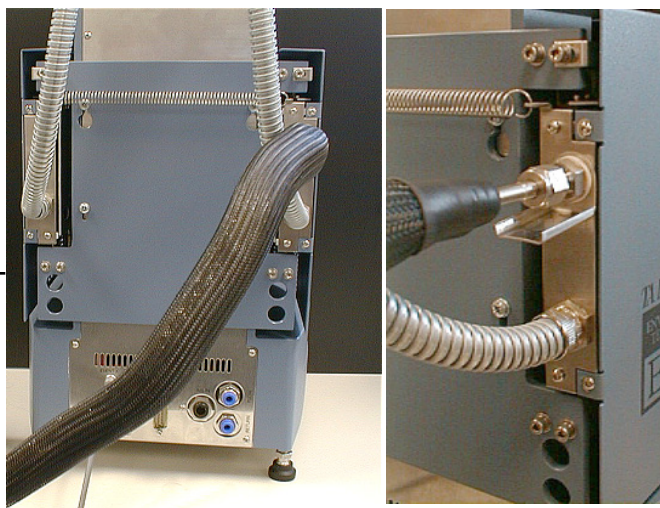
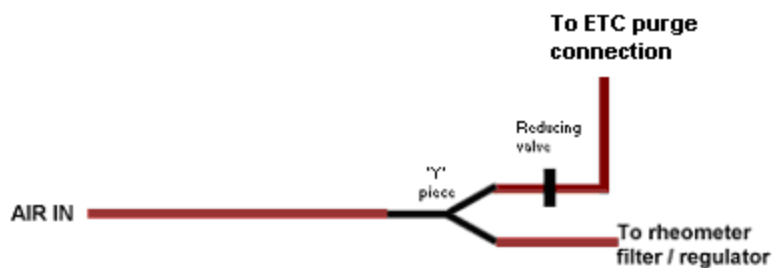
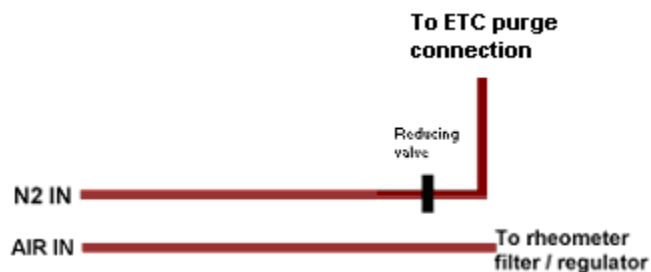

Figure 5.21
Figure 5.22
Figure 5.23
18. Connect the purge gas to the rheometer as seen in Figure 5.21 to the right. If you have a suitable supply of nitrogen gas (2 bar minimum pressure, nominal 10 liters per minute flow rate) it is recommended that you connect the feed gases to the ETC as shown in Figure 5.23. Otherwise, connect as shown in Figure 5.22 below.